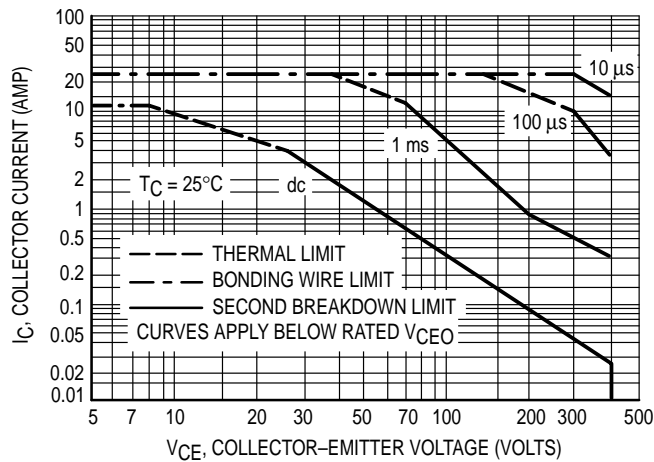

Figure 1. Forward Bias Safe Operating Area
The Safe Operating Area figures shown in Figures 1 and 2 are specified ratings for these devices under the test conditions shown.
The data of Figure 1 is based on  $T_C = 25^\circ\text{C}$ ;  $T_{J(pk)}$  is variable depending on power level. Second breakdown pulse limits are valid for duty cycles to 10% but must be derated when  $T_C \geq 25^\circ\text{C}$ . Second breakdown limitations do not derate the same as thermal limitations. Allowable current at the voltages shown on Figure 1 may be found at any case temperature by using the appropriate curve on Figure 3.
The sustaining or active region voltage requirements in switching applications occur during turn-on and turn-off. If the load contains a significant capacitive component, high current and voltage can exist simultaneously during turn-on and the pulsed forward bias SOA curves (Figure 1) are the proper design limits.
- (1) The device thermal limitations are not exceeded.
- (2) The turn-on time does not exceed 10  $\mu$ s (see standard pulsed forward SOA curves in Figure 1).